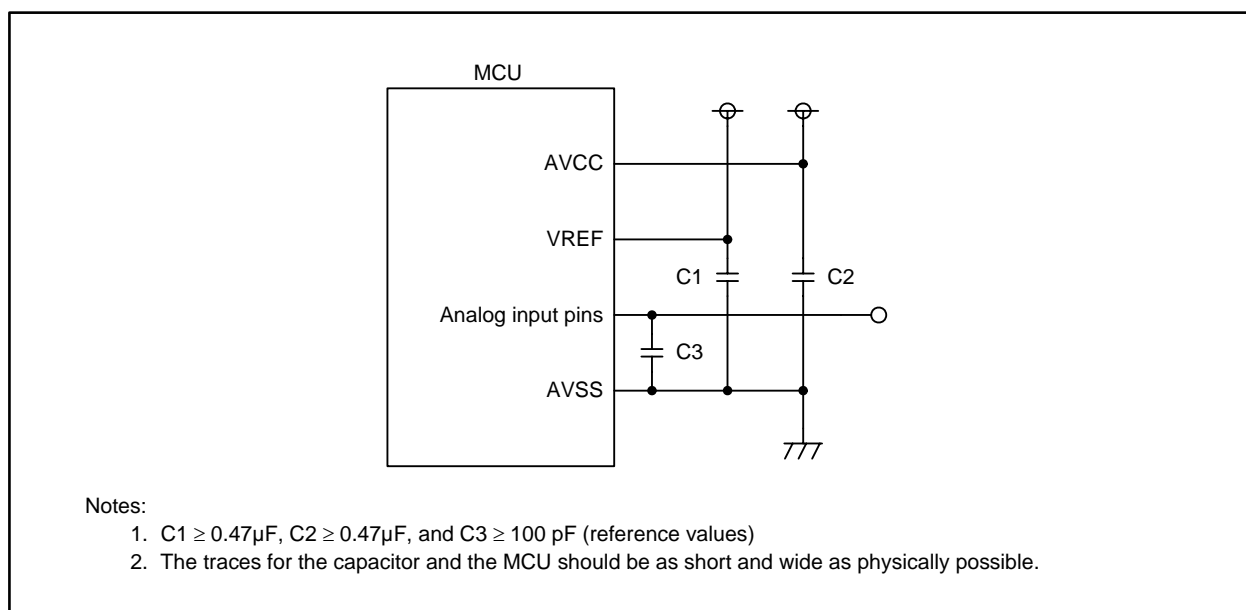

Figure 19.11 Pin Configuration for A/D Converter
- Three capacitors should be respectively placed between the AVSS pin and such pins as AVCC, VREF, and analog inputs (AN_0 to AN_7, AN0_0 to AN0_7, AN2_0 to AN2_7, and AN15_0 to AN15_7) to avoid error operations caused by noise or latchup, and to reduce conversion errors. Figure 19.11 shows an example of pin configuration for A/D converter.